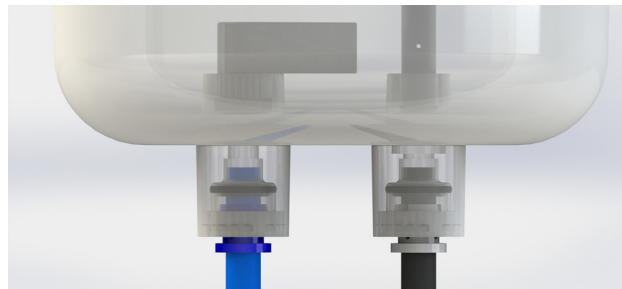
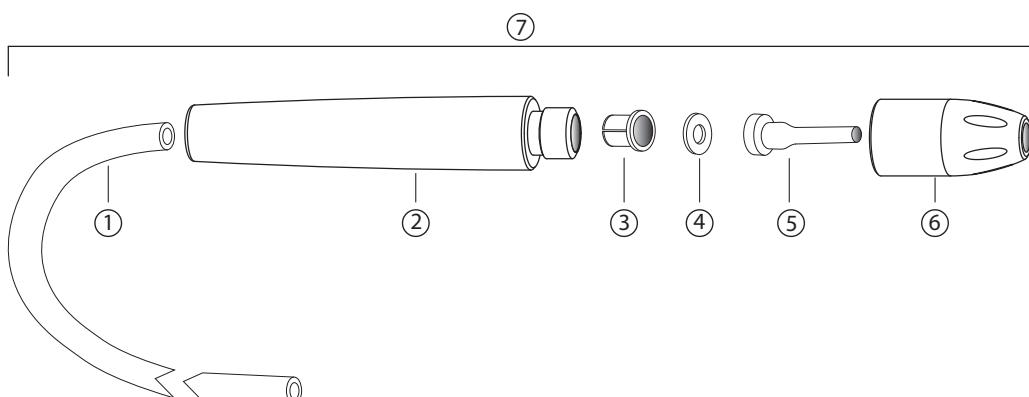

Figure 1
Figure 2
It is imperative that the handpiece tip and sealing o-ring be installed correctly and securely to avoid damage or leaks. Install in the manner shown in Figure 1 and ensure the tip and o-ring sit evenly in the assembly.
2. Remove the handpiece assembly ⑦ (Fig. 2) from inside the cabinet by pulling the tubing through the rubber grommet.
3. Unscrew the nozzle cap ⑥ to remove the tip ⑤ and O-ring ④. Using pliers, grasp the handpiece insert ③ and pull the tubing through the handle ② with a twisting motion. Avoid damaging the insert. Twist and pull to separate the insert from the tubing.
4. Using the new tubing, feed it through the handle with a twisting motion. Once the tubing extends several inches past the front of the handle, press the handpiece insert ③ fully into the end of the tubing until the tubing is flush with the front of the insert. Moistening the tubing may help with installation.
5. Pull the tubing back into the handle until the insert collar sits firmly against the end of the handle. Pull the tubing through the rubber grommet, blow out tank bottom fitting and re-attach it to the sand tank assembly by pushing it into the quick-release fitting. Visually make sure the tube travels past the black seal looking through the transparent raised area (Fig. 1). Re-assemble the O-ring, tip and nozzle cap to the handle.